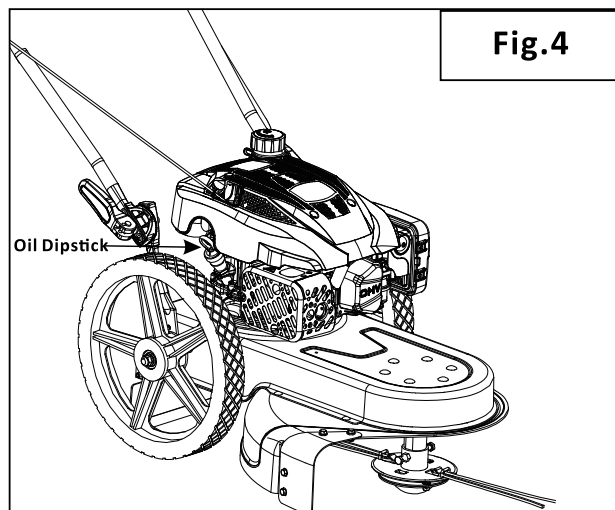

Fig.4
2. Unscrew the oil dipstick (Fig.4) from the engine.